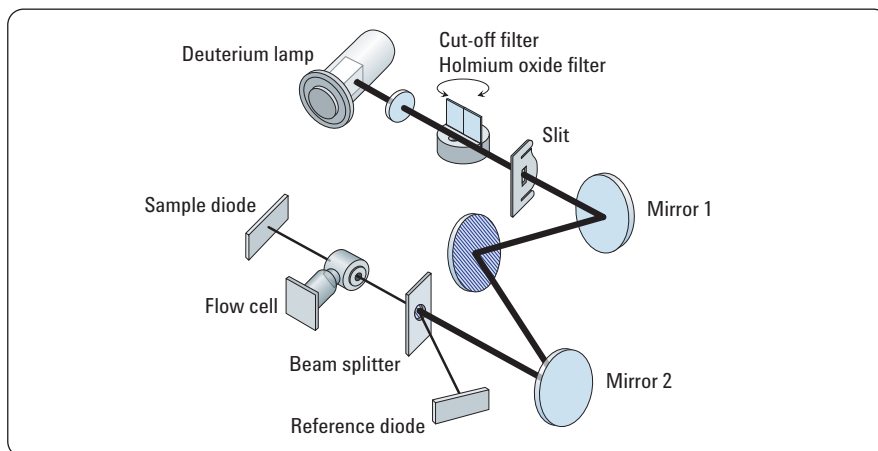

Figure 1
The optical system of the Agilent 1200 Series VWD and VWD SL Plus is shown in figure 1. Its radiation source is a deuterium-arc discharge lamp for the ultraviolet (UV) wavelength range from 190 to 600 nm. The light beam from the deuterium lamp passes through a lens, filter assembly (in open, cut-off or holmium oxide position), entrance slit (1 mm standard), spherical mirror (M1), grating, a second spherical mirror (M2), a beam splitter, and finally through the flow cell to the sample diode. The beam through the flow cell is absorbed depending on the solutions in the cell, in which UV absorption takes place, and the sample photodiode converts the intensity to an electrical signal. Part of the light is directed to the reference photodiode by the beam splitter to obtain a reference signal for compensation of intensity fluctuation of the light source. A slit in front of the reference photodiode cuts out light of the sample bandwidth. Band width is typically 6.5 nm. Wavelength selection is made by rotating the grating, which is driven directly by a stepper motor. This configuration allows fast change of the wavelength. The cut-off filter is moved into the light path above 370 nm to reduce higher order light.